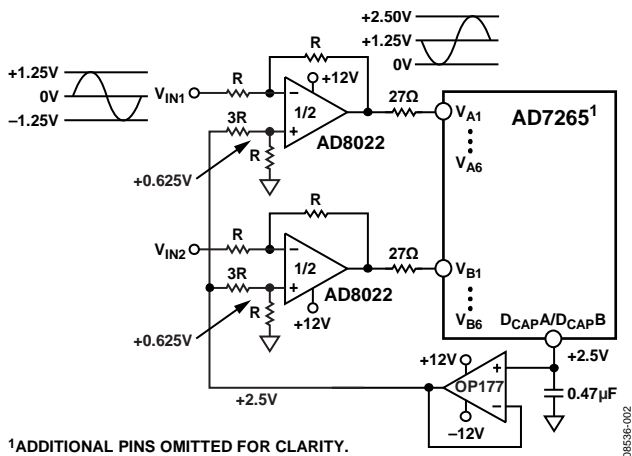

Figure 2. AD8022 DC-Coupled Circuit for Single-Ended Input Mode of Operation (Simplified Schematic—Decoupling and All Connections Not Shown)
The circuit configurations illustrated in Figure 1 shows how an AD8022 op amp can convert a bipolar single-ended signal into a unipolar differential signal that can be applied directly to the AD7265 analog inputs. The circuit not only performs the single-ended to differential conversion but also level shifts the output signal to match the ADC input range. The voltage applied to Point A sets up the common-mode voltage for each half of the AD8022. The 10 k $\Omega$ /20 k $\Omega$  divider generates this voltage (1.67 V) from the AD7265 2.5 V internal reference. If the on-chip 2.5 V reference on the AD7265 is used elsewhere in a system (as illustrated in Figure 1 and Figure 2), the output from the decoupling capacitor pins (DCAPA and DCAPB) must first be buffered. The OP177 features the highest precision performance of any op amp currently available and is recommended for a reference buffer.
The AD7265 can have a total of 12 single-ended analog input channels. The analog input range can be programmed to be either 0 V to the reference voltage ( $V_{REF}$ ) or 0 V to  $2 \times V_{REF}$ . Figure 2 shows a typical connection diagram when operating the ADC in single-ended mode, where an AD8022 drives a differential input pair per channel. The AD8021 is a high performance single op amp that can be used as an alternative to a dual device in very high performance systems. The absolute value of the resistor network (R) is flexible, but it must be chosen to achieve the desired bandwidth of the op amp.
In both Figure 1 and Figure 2, the AD8022 operates on dual 12 V supplies and the AD7265 is specified for power supply voltages of 2.7 V to 5.25 V. Ensure that the maximum input voltage limits of the AD7265 are not exceeded during transient or power-on conditions (see the MT-036 Tutorial). The circuit must also be constructed on a multilayer PC board with a large area ground plane. Use proper layout, grounding, and decoupling techniques must to achieve optimum performance (see the MT-031 Tutorial, the MT-101 Tutorial, and EVAL-AD7265).